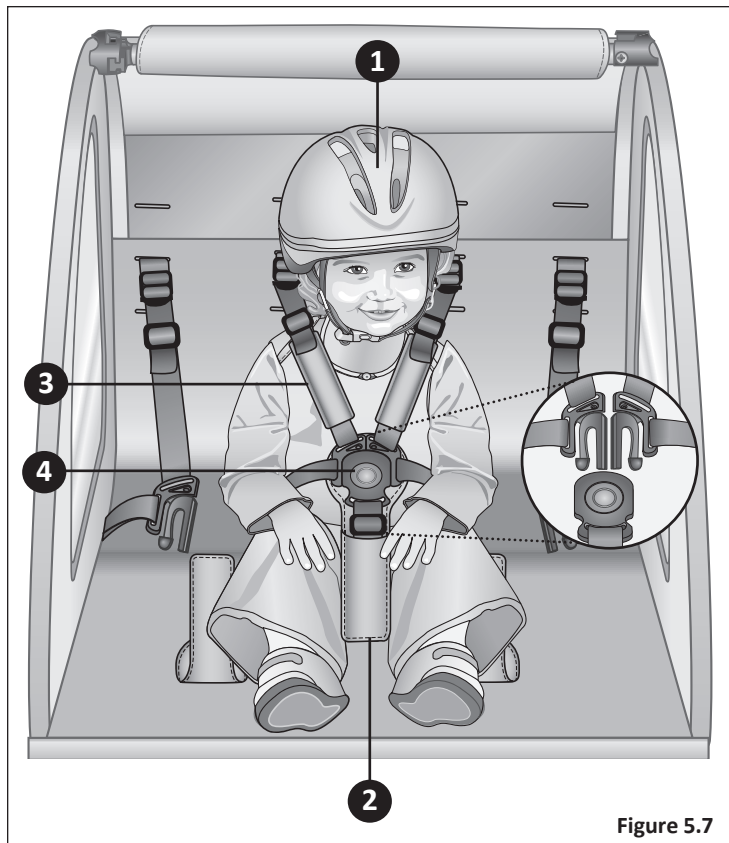

Figure 5.7
- ❶ Child must be seated in the center passenger compartment.
- ❷ Place the center lap buckle between the child's legs.
- ❸ Place the shoulder straps over the child's shoulders and the waist straps under the child's arms.
- ❹ Bring the waste straps across the child's hips, and fasten the clips into the lap buckle. Tighten as needed. **Figure 5.7**